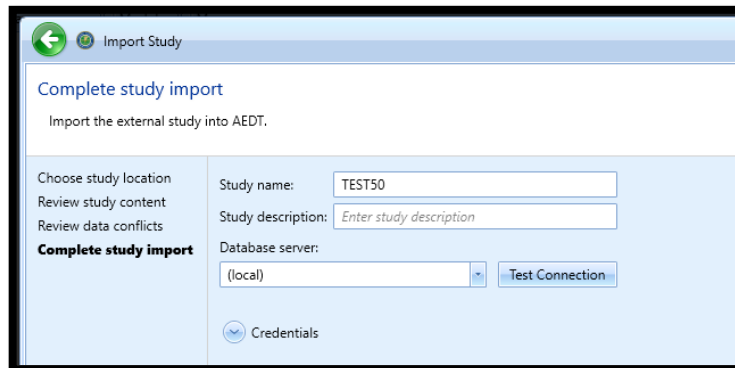

Figure 66. Complete study import
- In the *Complete study import* step, enter a unique study name (Figure 66).